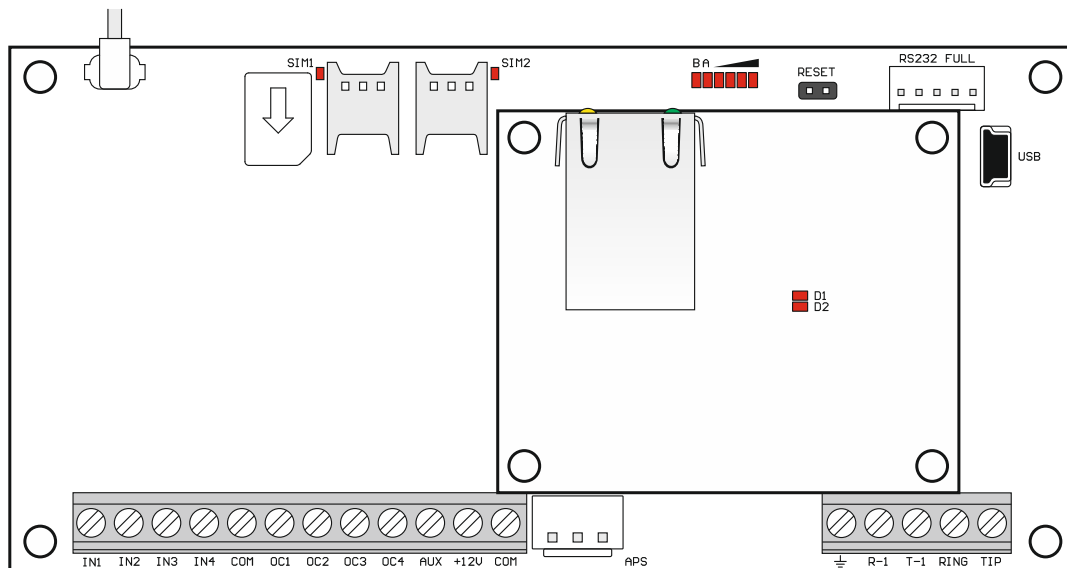

Fig. 15. The GSM-X module electronic board with GSM-X-ETH module installed.
3. Install the GSM-X-ETH Ethernet module in the connectors on the GSM-X module electronics board (Fig. 15).